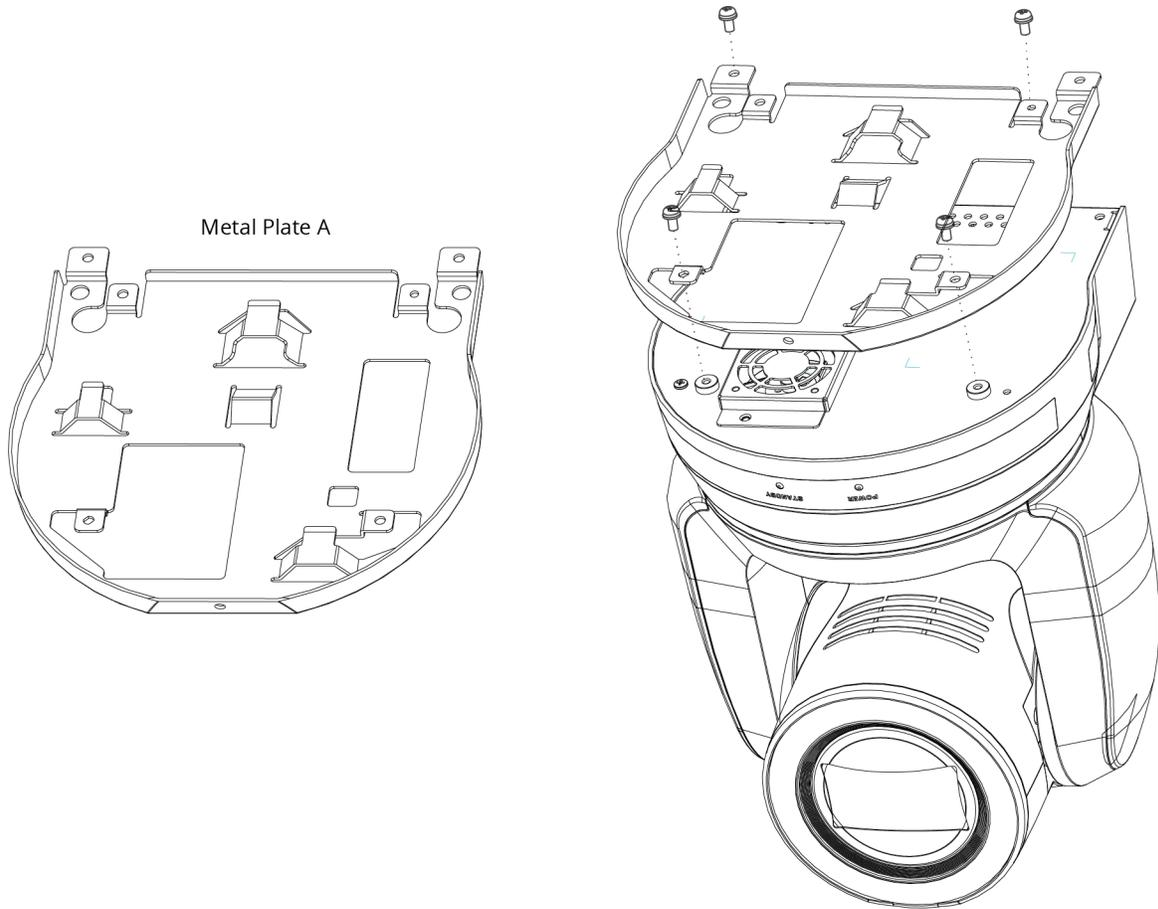

Figure 16 - Attaching Metal Plate A to the Base of the Camera (4 silver M3 screws - included)
- Using four silver M3 screws (included), fasten **Metal Plate A** to the base of the camera (Figure 16).